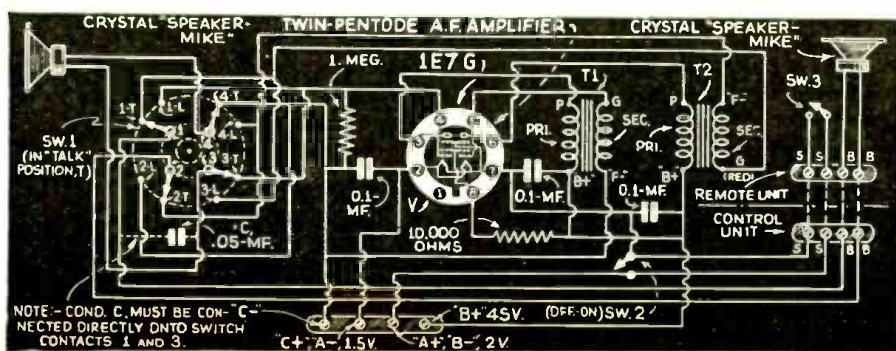

Fig. 1. Schematic diagram of the 1-tube battery-type intercommunication system.
(1) Sound is caused by the vibration of any material thing. Fig. 1 shows a simple experiment with a *tuning fork* that demonstrates this fact. In our case, plucking the string starts it vibrating.